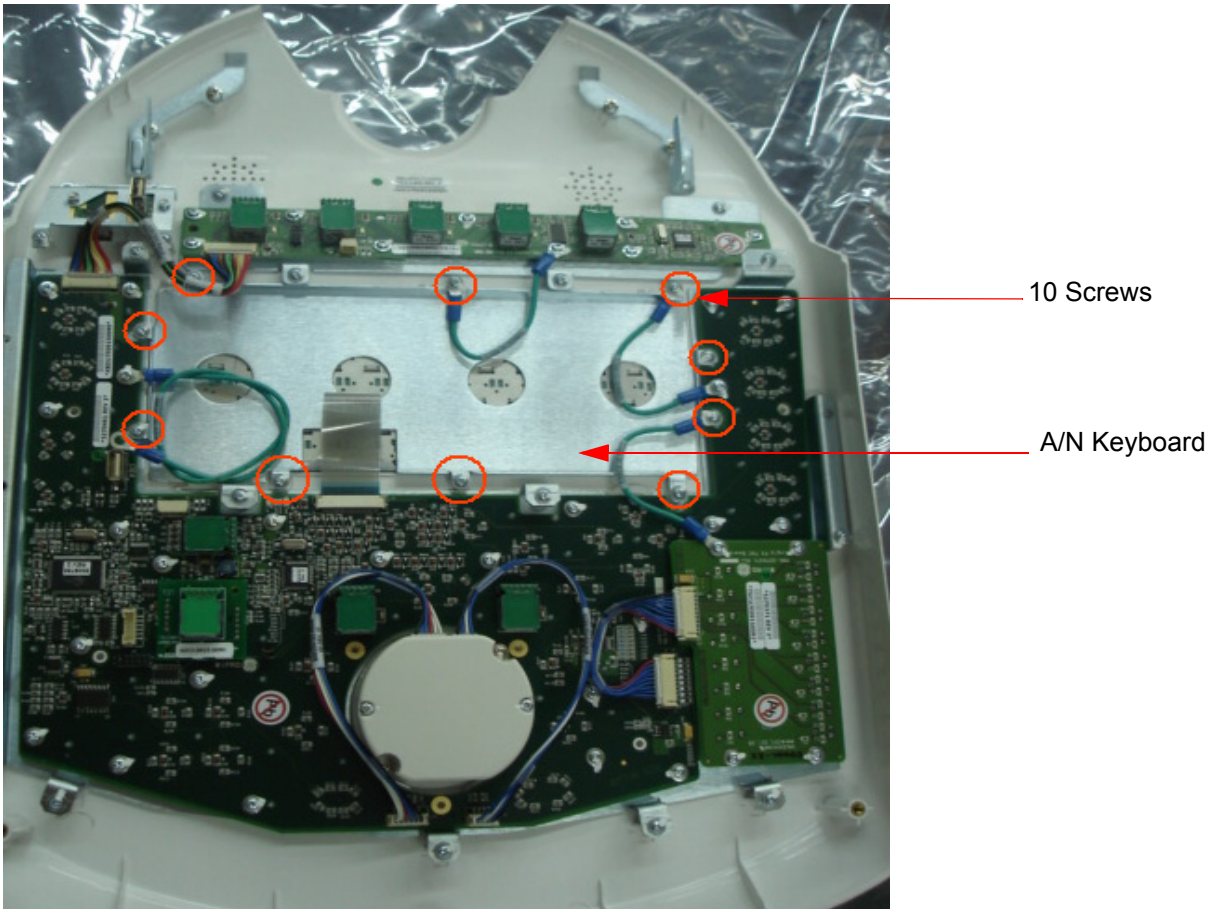

Figure 8-15   Alpha Numeric keyboard PCB
2) Remove the Alphanumeric Keyboard by unfastening the 10 screws (marked in Red color in Figure 8-15 on page 8-18 ) holding it and the Alphanumeric keyboard cable.